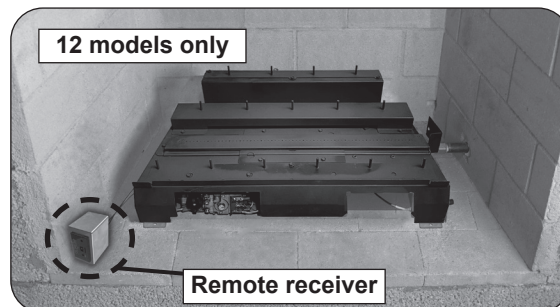

Fig. 20-3 Place remote receiver
3. Route the wires out of the left side of the burner, then place the remote receiver at the front left corner of the fireplace. Place as far from the burner system as possible. See Fig. 20-3.